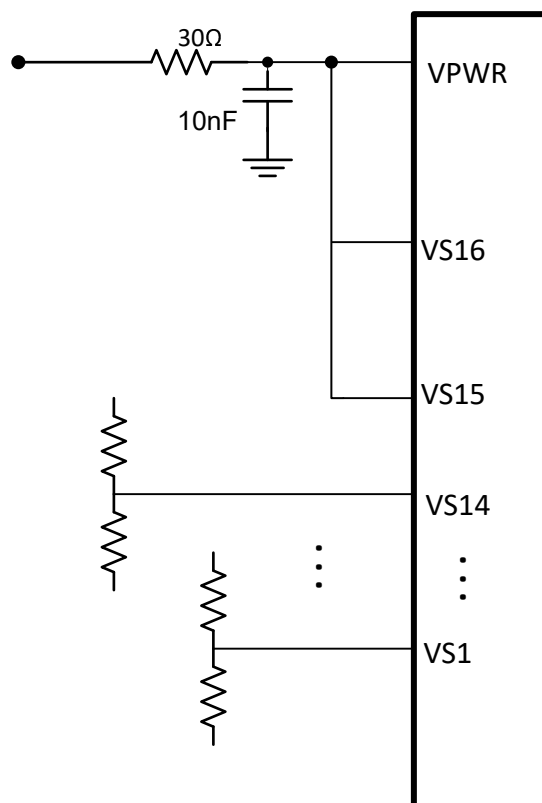

図 9-7. Unused Pins Tied to VPWR
- Short unused VS pins to VPWR as shown in 図 9-7.
Unused VS pins need to be tied to VPWR as shown in 図 9-7.